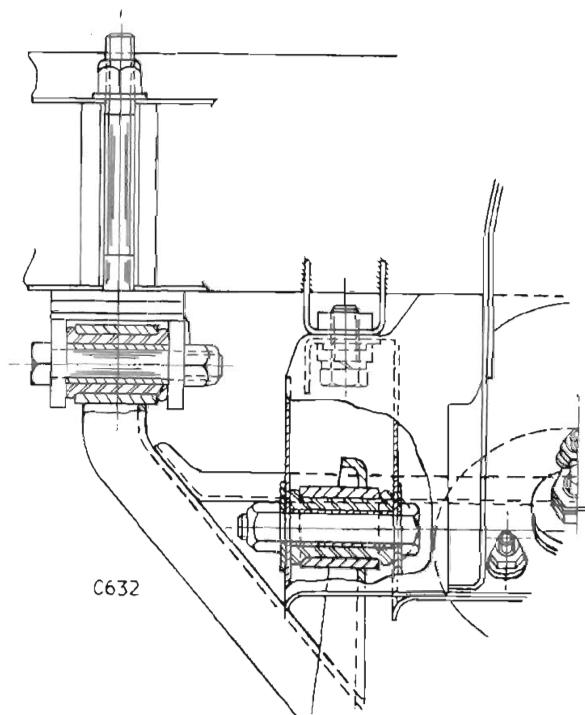

Fig. 14. Cross section of upper and lower inner fulcrum pivots
1. Using a suitable press and pilot tool, press the rubber bushes (13) into the eyes at the inner ends of the upper wishbones (10) and (12) and lower wishbones (35) until they protrude equally either side of the wishbone eyes as shown on Fig. 14.
2. Fit the stub axle (52) to the vertical link (18), with the split pin hole in its outer end horizontal. Secure the stub axle with the plain washer (24) and nyloc nut (23).